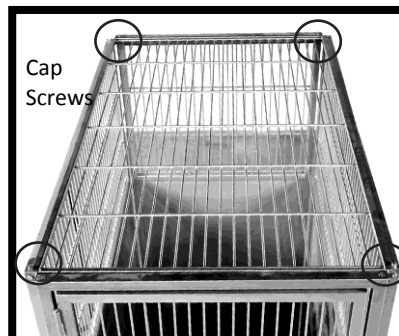

Figure 66: Replacing the Top Panel
1. With a 1/2in. wrench, remove the four cap screws from the tops of the end and partition panels (Figure 66). There are no cap screws in the swinging gate and back panel.